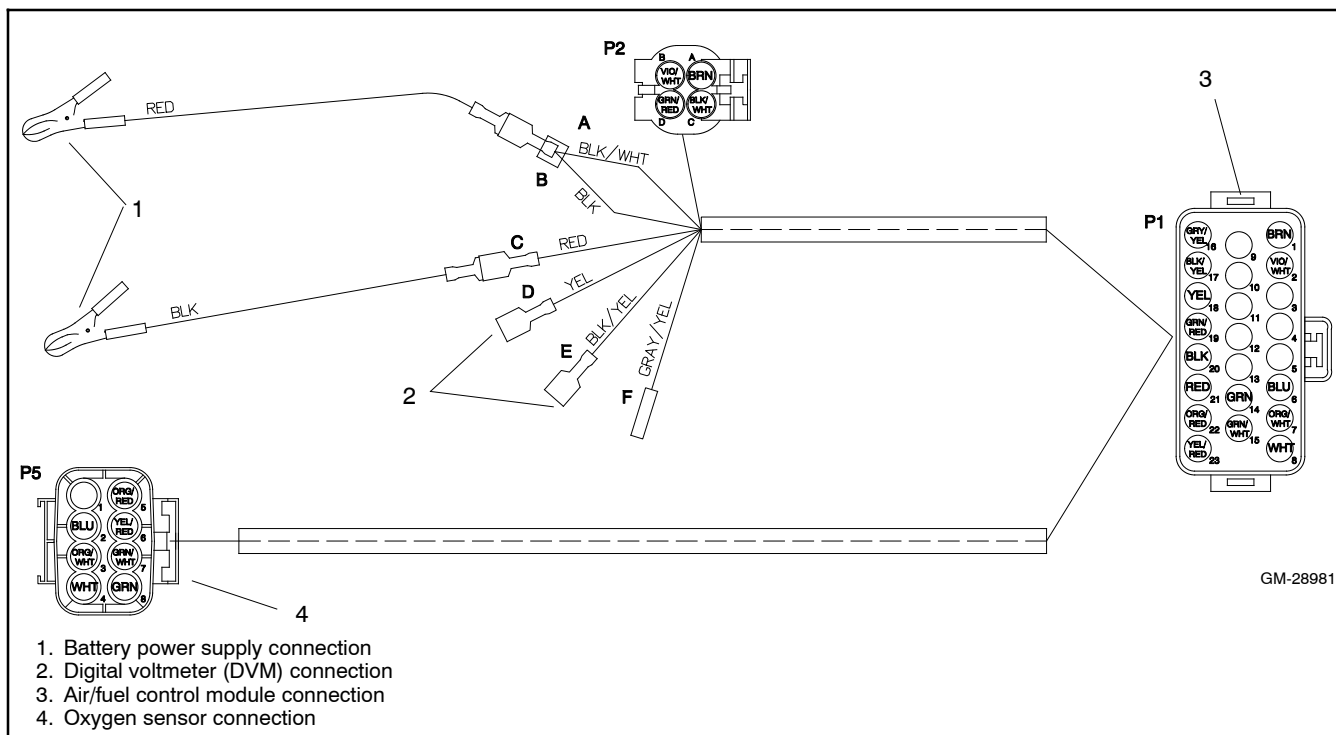

Figure 6-44 UEGO Sensor Interface Harness GM28981 Electrical Connections
4. Connect the oxygen sensor to the engine starting battery, control module, and voltmeter as shown in Figure 6-44.